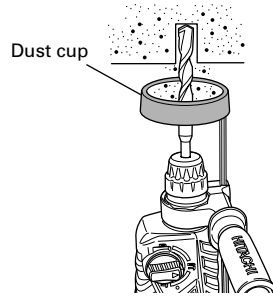
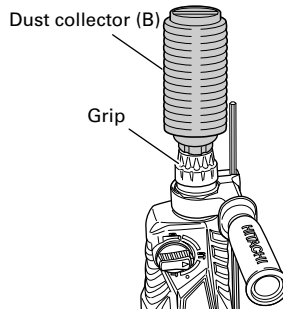

Fig. 3
Fig. 4
5. Installation of dust cup or dust collector (B) (Optional accessories) (Fig. 3, Fig. 4)
Use the dust cup by attaching to the drill bit as shown in Fig. 3.
- Installing dust collector (B)
When using dust collector (B), insert dust collector (B) from the tip of the bit by aligning it to the groove on the grip (Fig. 4).